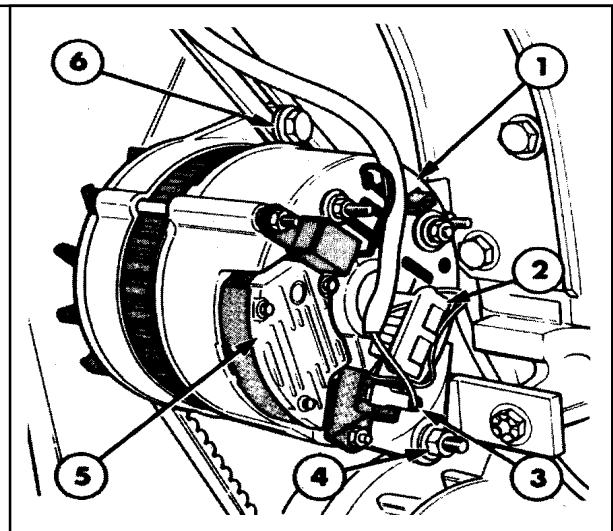

Figure 18
2. Disconnect the alternator connector plug, Figure 18.